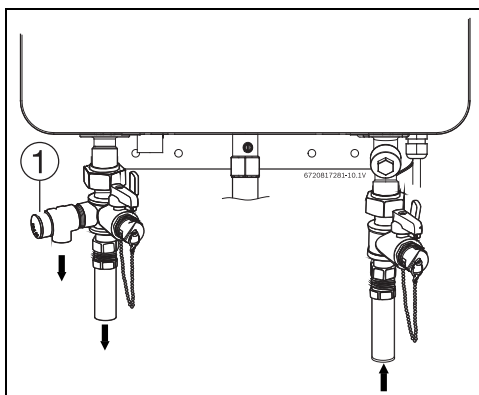

Fig. 14 Plumbing Connections (with shutoff valves) and Pressure Relief Valve
- Full port shutoff valves should be installed on both the cold water supply and hot water outlet lines to facilitate servicing the heater (see fig. 14).
A pressure relief valve must be installed at the time of installation. No valve is to be placed between the PRV and the heater. No reducing coupling or other restriction may be installed in the discharge line. The discharge line must be a minimum of 4" above a drain and installed such that it allows complete drainage of both the PRV and the line. The discharge line must be placed where it will not cause any damage. The location of the PRV must be readily accessible for servicing or replacement, and be mounted as close to the water heater as possible. See fig. 14. To install the PRV, a suitable fitting connected to an extension on a "T" fitting can be connected to the hot water line.